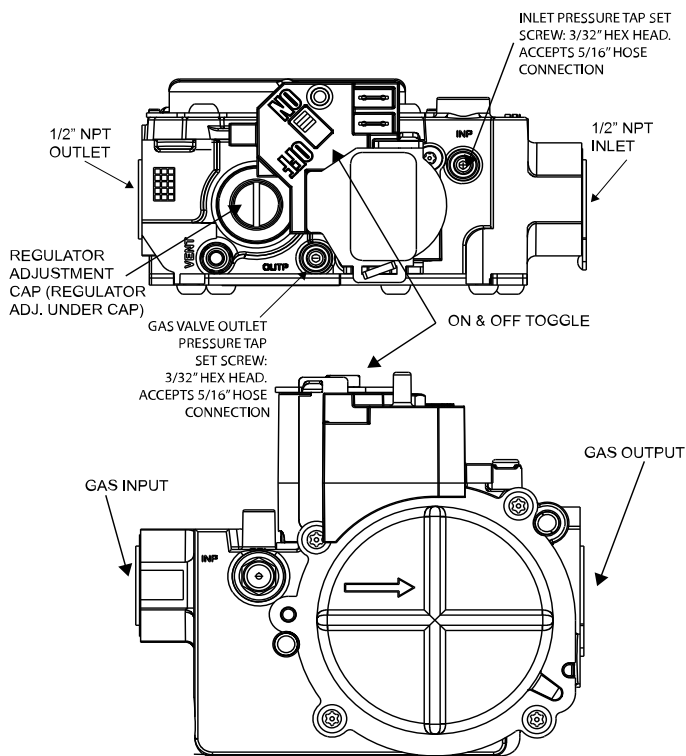

Fig. 21 – Gas Control Valve
**NOTE:** The furnace gas control valve inlet pressure tap connection is suitable to use as test gauge connection providing test pressure **DOES NOT** exceed maximum 0.5 psig (14" w.c.) stated on gas control valve, see Fig. 21.